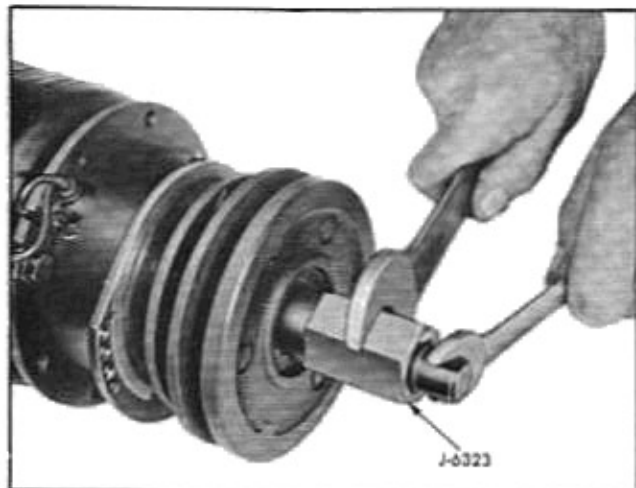

Fig. 7-51 Installing Pulley
5. Install the pulley assembly using J-6323-01 or J-6323 and J-6323-5 in a similar manner as installing the rotor plate (Fig. 7-51).